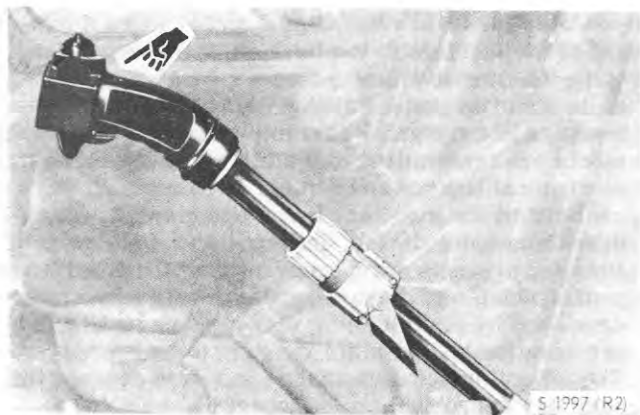

Figure 1-36. Collective Pitch Lever
Two collective pitch levers (figure 1-36) are located in the pilot's compartment, one to the left of the pilot's seat and the other to the left of the copilot's seat. Both levers operate simultaneously to change the collective pitch of the main rotor blades. A nut on the pilot's collective pitch lever marked COLLECTIVE PITCH LOCK, with an arrow pointing left marked INCREASE FRICTION, can be rotated to apply friction to prevent the collective pitch lever from creeping while in flight.
Both the primary and the auxiliary flight control servo systems are controlled by the same three position flight control servo switch, located on the collective pitch grip lever (figure 1-36). The marked switch positions are PRI OFF and AUX OFF. Both servo systems are normally in operation with the switch in the unmarked center (ON) position. To turn off the primary servos, the switch is placed in the forward PRI OFF position and to turn off the auxiliary servos, the switch is placed in the aft AUX OFF position. Stronger rotary rudder pedal forces and the absence of pedal damping will be encountered with the auxiliary servos inoperative. The systems are interconnected electrically in such a way that, regardless of the switch position, it is impossible to turn either one off unless there is 1000 psi in the remaining system for proper operation. The servo shutoff valves operate on direct current from the essential bus.